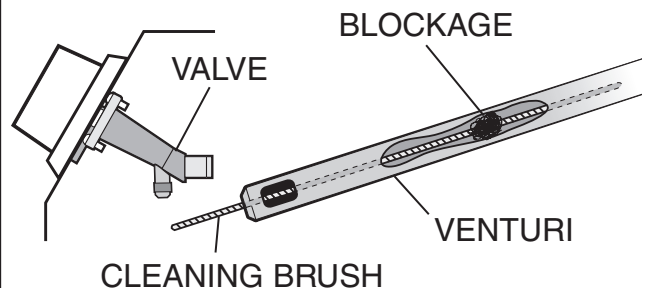

Fig. 8
- Use a venturi cleaning brush and insert the brush into the venturi tube 1 inch at a time, then remove to prevent moving the debris upwards (see Figure 8).
- Visually check the flames every time you light your barbeque (Figure 10). If the flame is abnormally small or a smoky yellow -- shut off the barbeque and check the venturi tubes for blockage (see Figure 8) or refer to the Troubleshooting Guide.